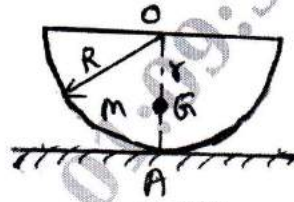

Fig.Q.4(b)
b. Find the natural frequency of vibration of the half solid cylinder shown in Fig.Q.4(b), when slightly displaced from the equilibrium position and released by using i) Newton's method (10 Marks)